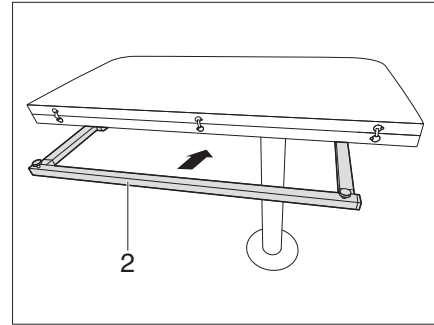

Fig. 114 Push in the folding table base
- Push in the table base (Fig. 114,2).